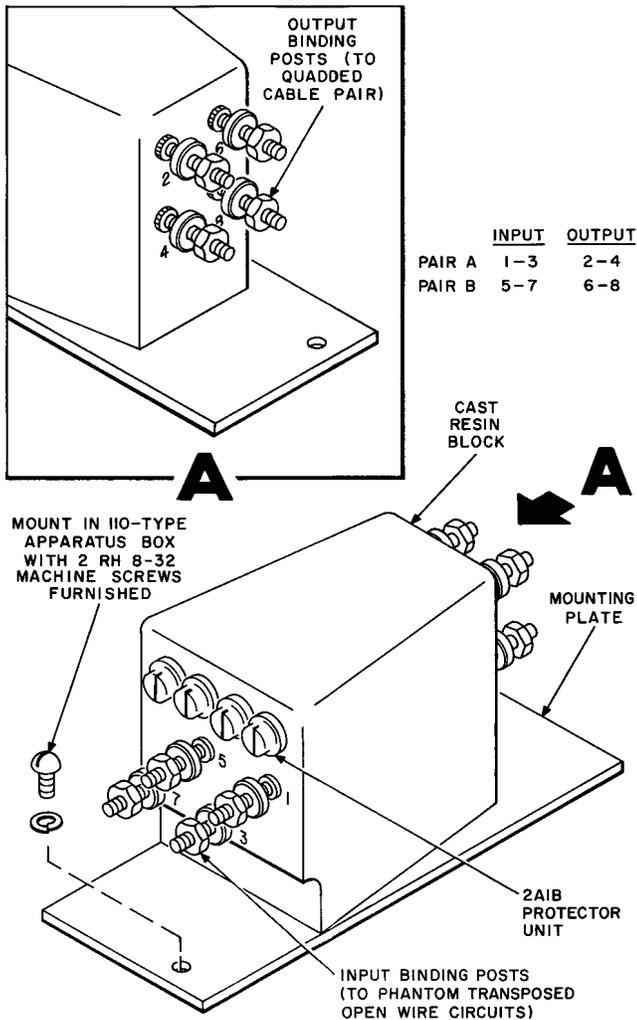

Fig. 3—1530B Inductor (Quadded Pair Type)
3.01 This inductor is a quadded-pair type consisting of a four-winding retardation coil, four 2A1B Protector Units with input and output binding posts, all assembled in a cast resin block. It is also provided with a mounting plate designed to fit in the 110-type apparatus box. It is designed primarily for use on quadded cable conductors. (Fig. 3 and 4)